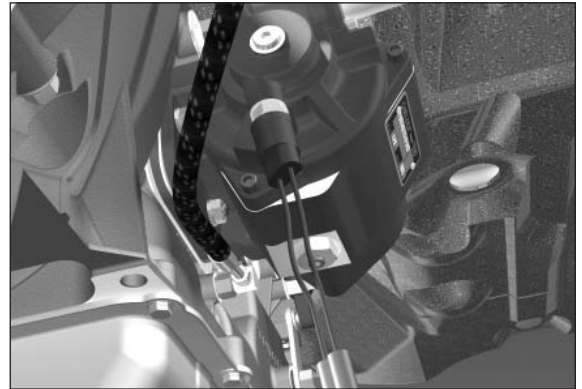

Figure 58
16. Install the PTO pressure switch onto port on the Hydraulic Valve Cap. Torque to 10-12 Lbs-ft (**Fig. 58**).